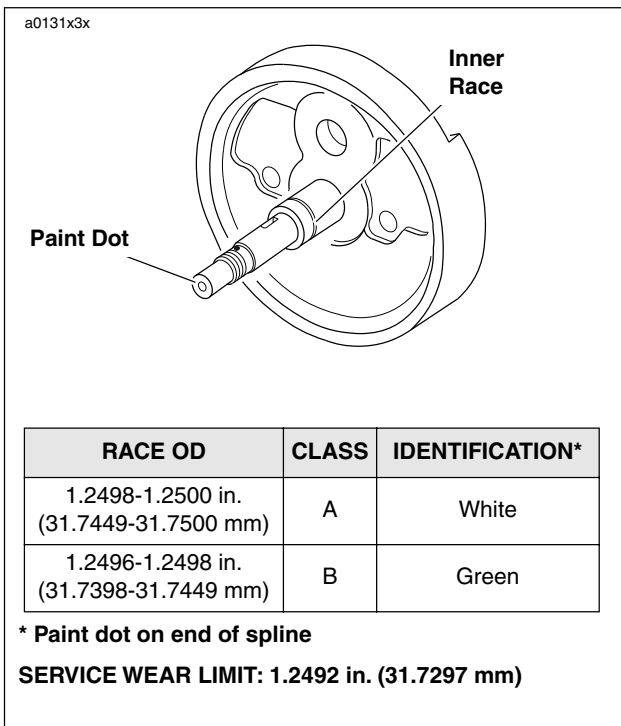

Figure 3-121. Factory Inner Race Sizes
- 14. See Figure 3-121. Installed inner races are identified at the factory as shown.